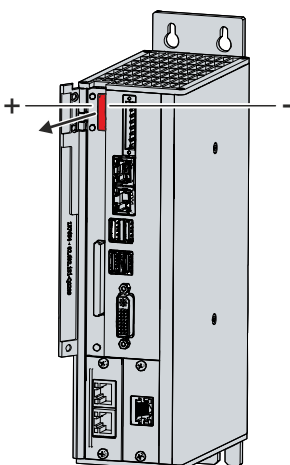

Fig. 20: Battery change
2. Insert the new battery into the PC by hand. Pay attention to the correct polarity. The negative pole of the battery must point towards the voltage socket of the industrial PC (see Fig. 20).